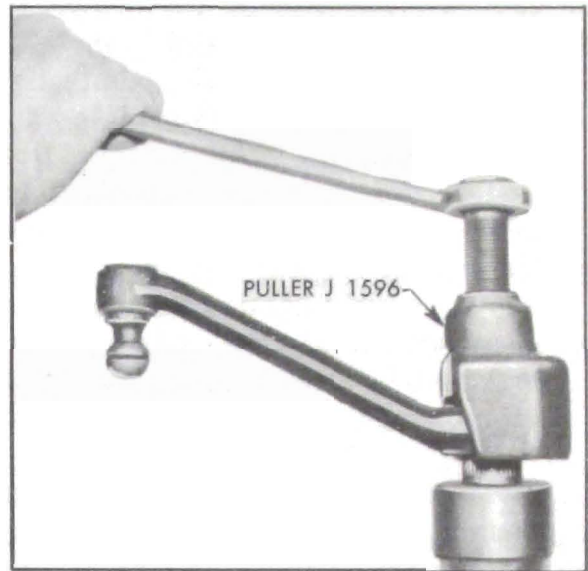

Figure 7-12—Removing Pitman Arm with Puller J 1596
1. Remove nut, lock washer, and pitman arm using Puller J 1596 to remove pitman arm; *the gear assembly will be damaged if arm is driven or pried off pitman shaft*. See figure 7-12.